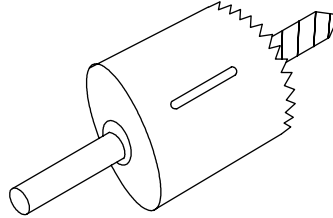

Fig. 1.22
- circular cutter see Fig. 1.22